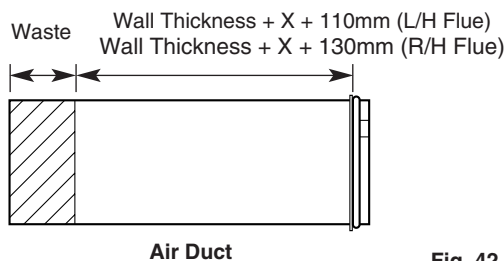

Fig. 42
6. Measure the same amount from the flange end of the **Air Duct** and cut the waste off the plain end (Fig. 42).